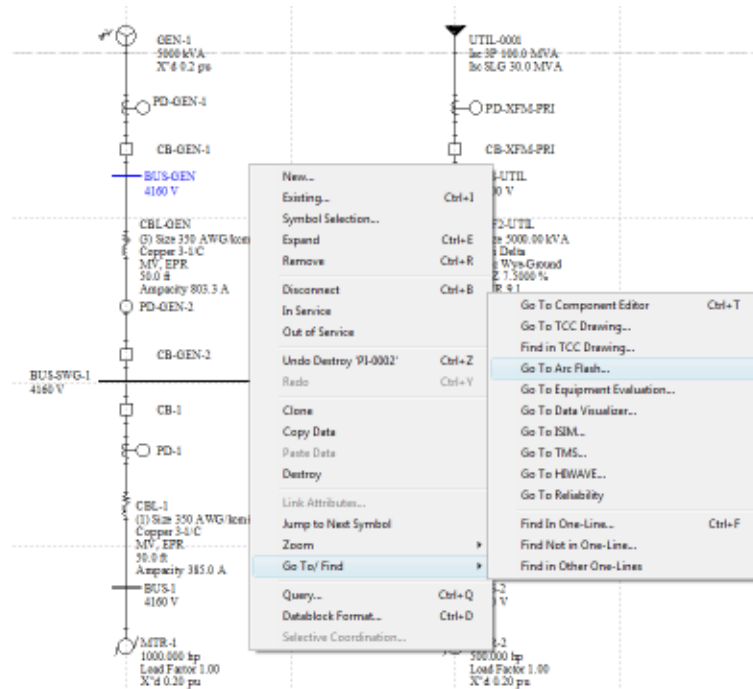

Figure 11
10. Select BUS-GEN from the one-line drawing. Right-click and choose Go To/Find > Go To Arc Flash to analyze the study results for the bus which is within the protection zone of the directional relays (Figure 11).